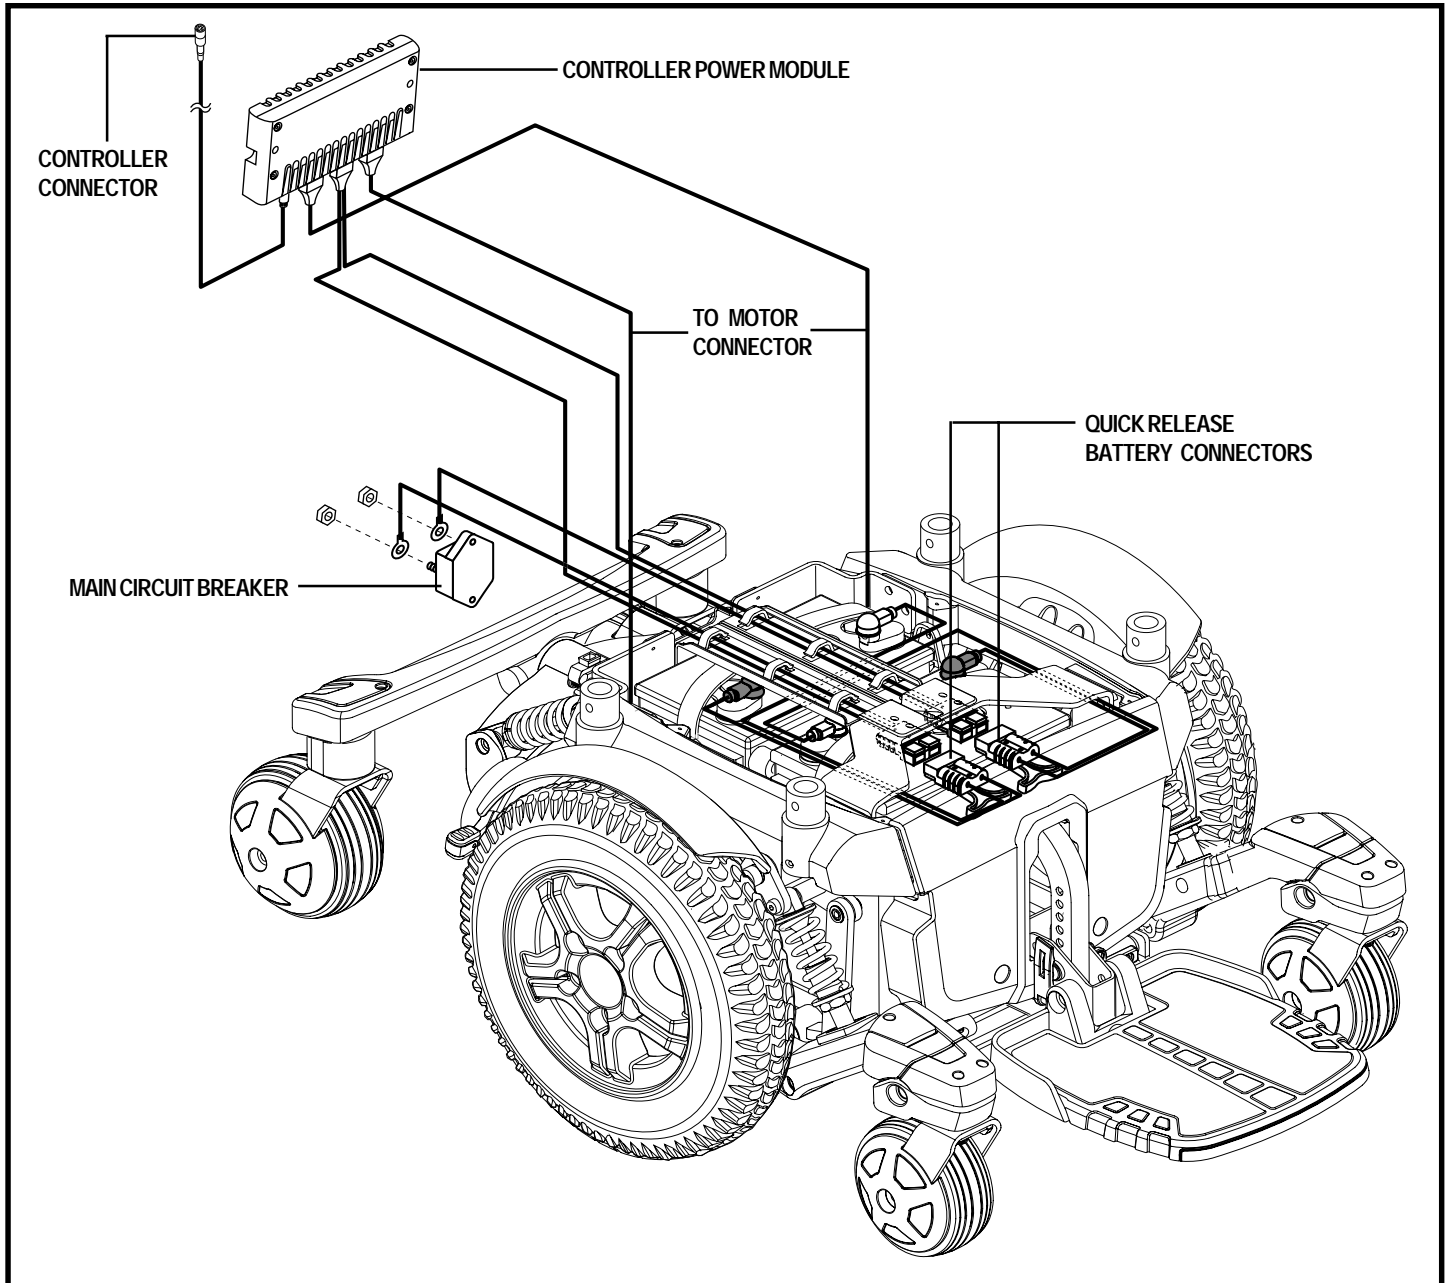

Figure 7. Quantum 6000 XL Electrical Components
The electrical components consist of the controller assembly, the batteries, and the motors. The batteries, motors, and controller power module are located on the power base assembly. The controller is located on the seat assembly. Connectivity between the controller and the motors, batteries, and the battery charger is provided by one or more wiring harnesses. See figure 7.
6. Plug the controller connector into the power base. See figure 7.
4. Disconnect the controller connector from the power base. See figure 7.